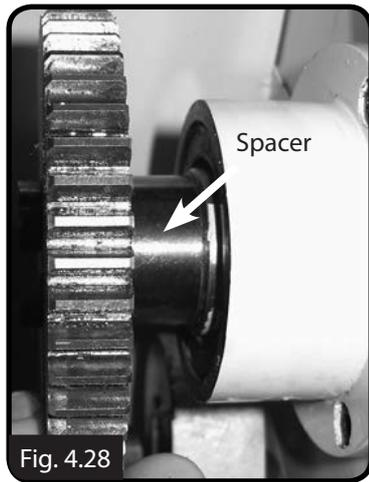

Fig. 4.28
10. If required slide the spacer onto the spindle, (Fig. 4.28) then slide the gear on the shaft. If the spacer is not required then place the gear on the shaft so that the shoulder is then placed against the bearing (Fig. 4.29).